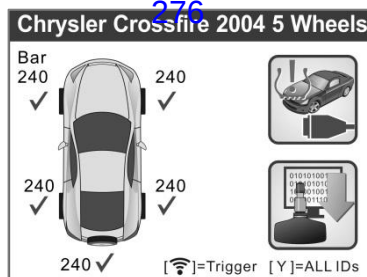

Figure 4.18
- 4) Follow the same process in 4.1 TPMS Sensor Check to enter the activation screen. Use the **UP/DOWN** scroll button or **LEFT/RIGHT** scroll button to select the **TPMS Relearn** function on the upper right corner of the screen (Figure 4.18).